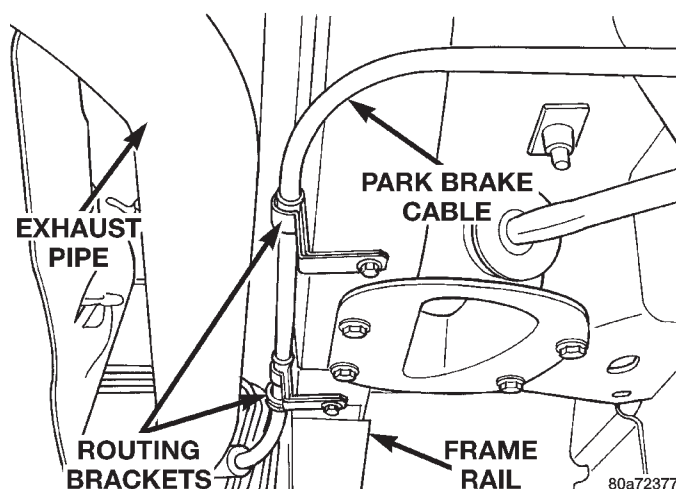
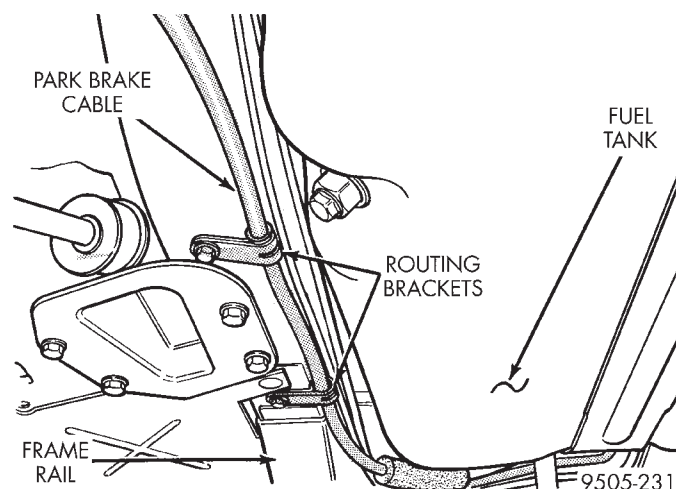

Fig. 151 Park Brake Cable Routing Brackets(Right Side)
Fig. 152 Park Brake Cable Routing Brackets(Left Side)
(24) Remove the 2 routing brackets attaching the right hand side (Fig. 151) or left hand side (Fig. 152) park brake cable to the frame rail.
(3) Install the 2 park brake cable routing brackets (Fig. 151) or (Fig. 152) on the right or left side rear frame rail. Install and securely tighten routing bracket attaching bolts.